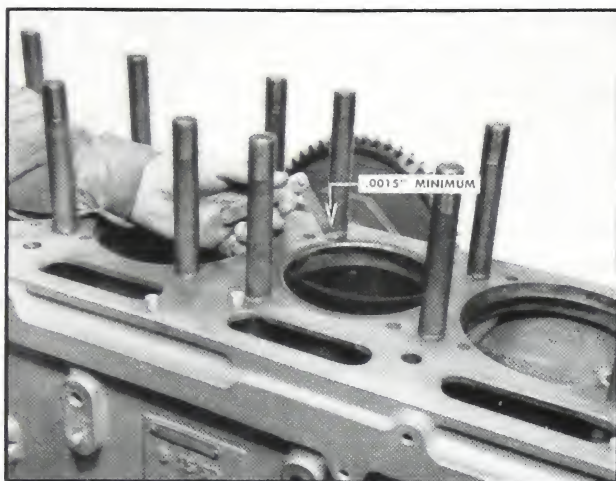

Fig. 2-22. Cylinder liner-block clearance "A"
2. Pass a .0015 feeler gauge around the entire circumference of the liner, between the flange and the block. (Fig. 2-22.)